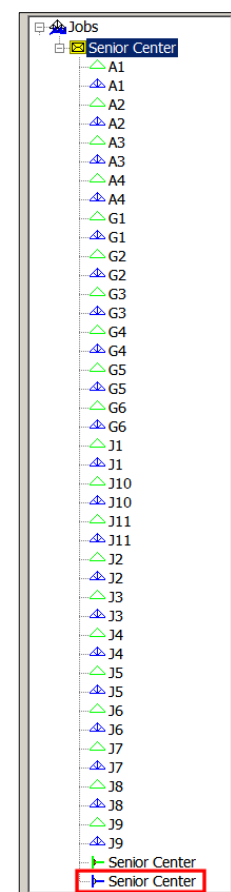

Figure 158: A TTC file.
4. When you double click on the LDG file, GS Truss will create copies of all the truss files associated with the job in its own native (KTS) format. The icons representing these new files will appear blue in color, as pictured in Figure 158 at right. In addition to the new truss files, GS Plan will also automatically create a *Truss-to-Truss Connection Table* (TTC) file, represented by a blue icon that looks like this .